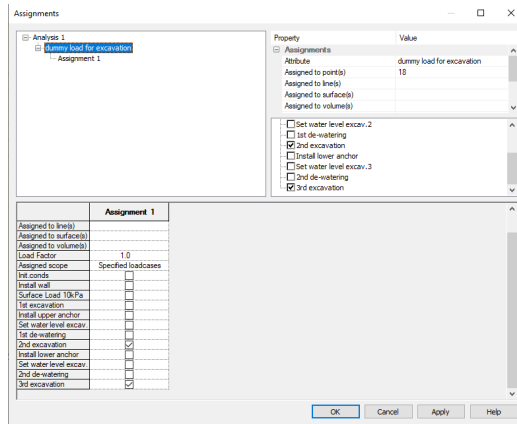

Figure 58: Selection of stages for the application of the dummy excavation load
- In the Attributes treeview, right-click on the load attribute **dummy load for excavation** and then click on **Edit Assignments...** Check the tick-boxes for loadcases **2nd excavation** and **3rd excavation**. Make sure that the other tick-boxes are unchecked (figure 58). Click **OK**.